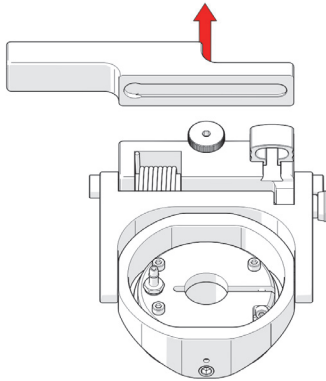

Figure 2-91 Remove bracket
3. Remove the mounting bracket (see Figure 2-91 on page 116).